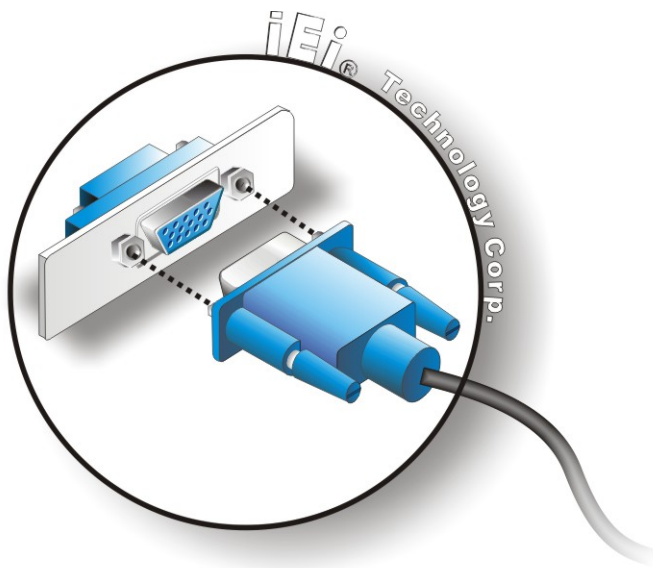

Figure 4-25: VGA Connector
- Step 3: Insert the VGA connector** Once the connectors are properly aligned with the insert the male connector from the VGA screen into the female connector on the UPC-12A/GM45. See **Figure 4-25**.